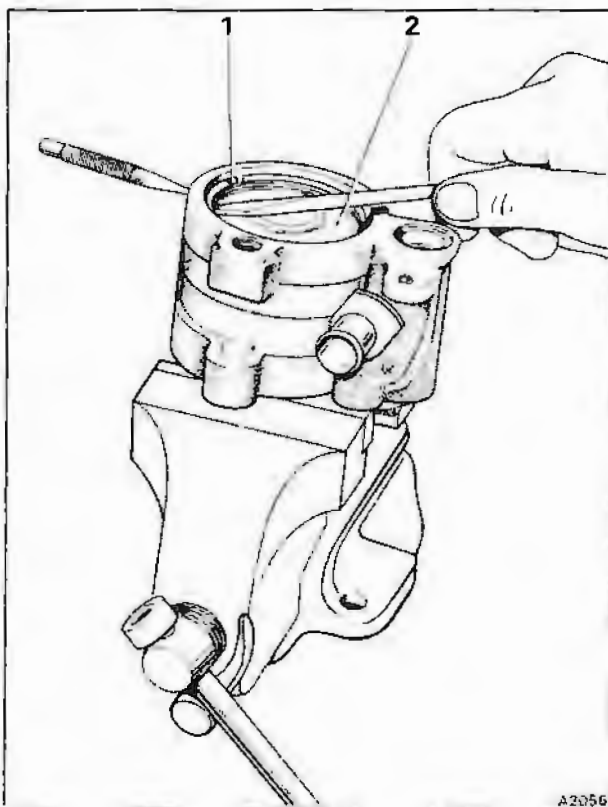

Fig. N3-4 End plate removal
5. Press a centre punch or similar tool into the small hole in the pump housing directly opposite the control valve adapter (see fig. N3-4).